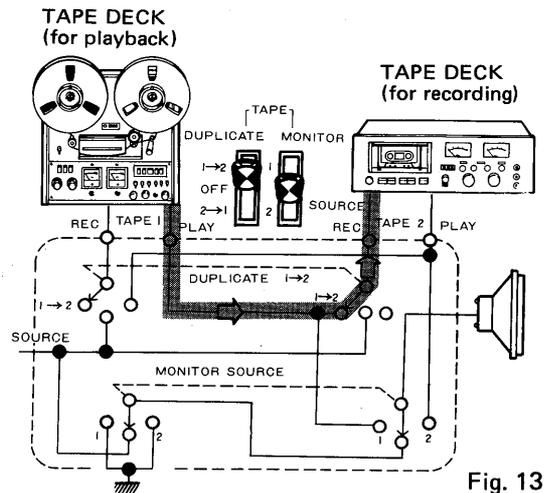

Fig. 13
1. Connect two tape decks as shown in Fig. 13.
As shown in Fig. 13, set TAPE MONITOR switch to position of tape deck (2 or 1) in recording mode.